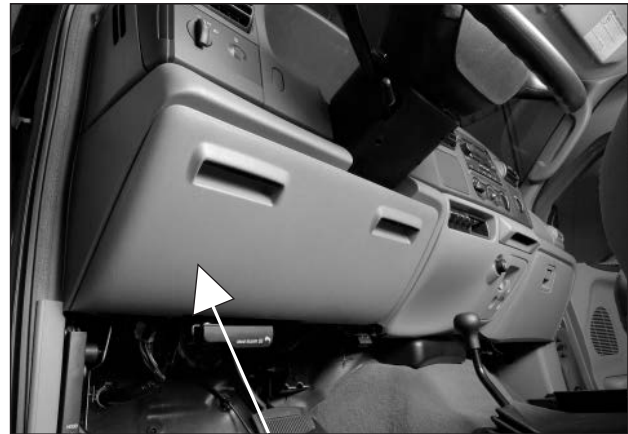

Figure 4
- b. All Others - Ford wiring is located behind the customer access panel located directly under the steering column **(Fig. 4)**.